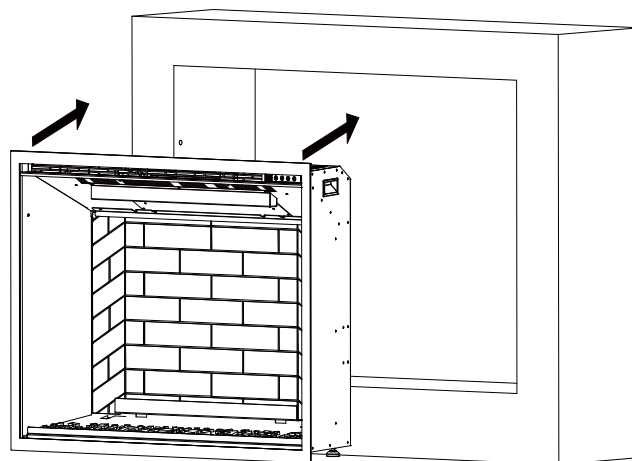

Figure. 3-2
- ② Insert the fireplace into the finished opening, ensuring the unit is flush with the finished wall surface (Fig. 3-2).